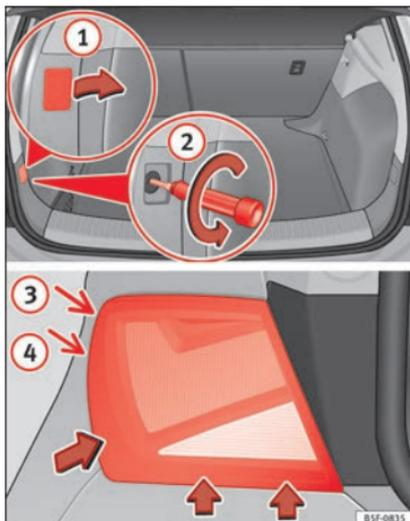

Fig. 111 Luggage compartment: location of the bolt securing the tail light unit. Remove the rear light unit from side panel.
- Remove the cover by prying the flat side of a screwdriver into the recess and remove the cover from the opening » **Fig. 111 ①**.
- Carefully loosen the screw located behind the cover with a screwdriver, turning it anti-clockwise (arrows) » **Fig. 111 ②**.
- Tilt the light in the direction of the arrows until it comes out of its housing (positions **③** and **④**) » **Fig. 111**.